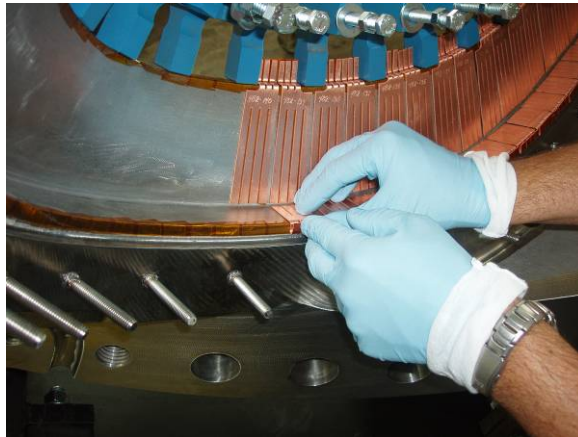

Figure 31-Positioning Horizontal Cladding
- Place the cladding into position and hold in place for 5 seconds. Then continue with remaining cladding pieces. [Figure 31-Positioning Horizontal Cladding]